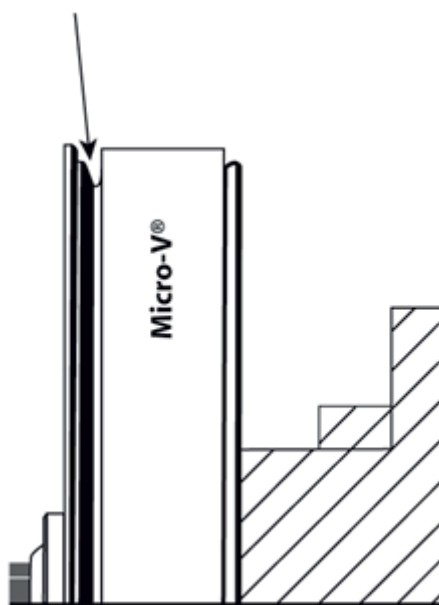

FIG. 1
- power steering pump is belt driven: free pulley groove is groove furthest from engine (Fig 1)